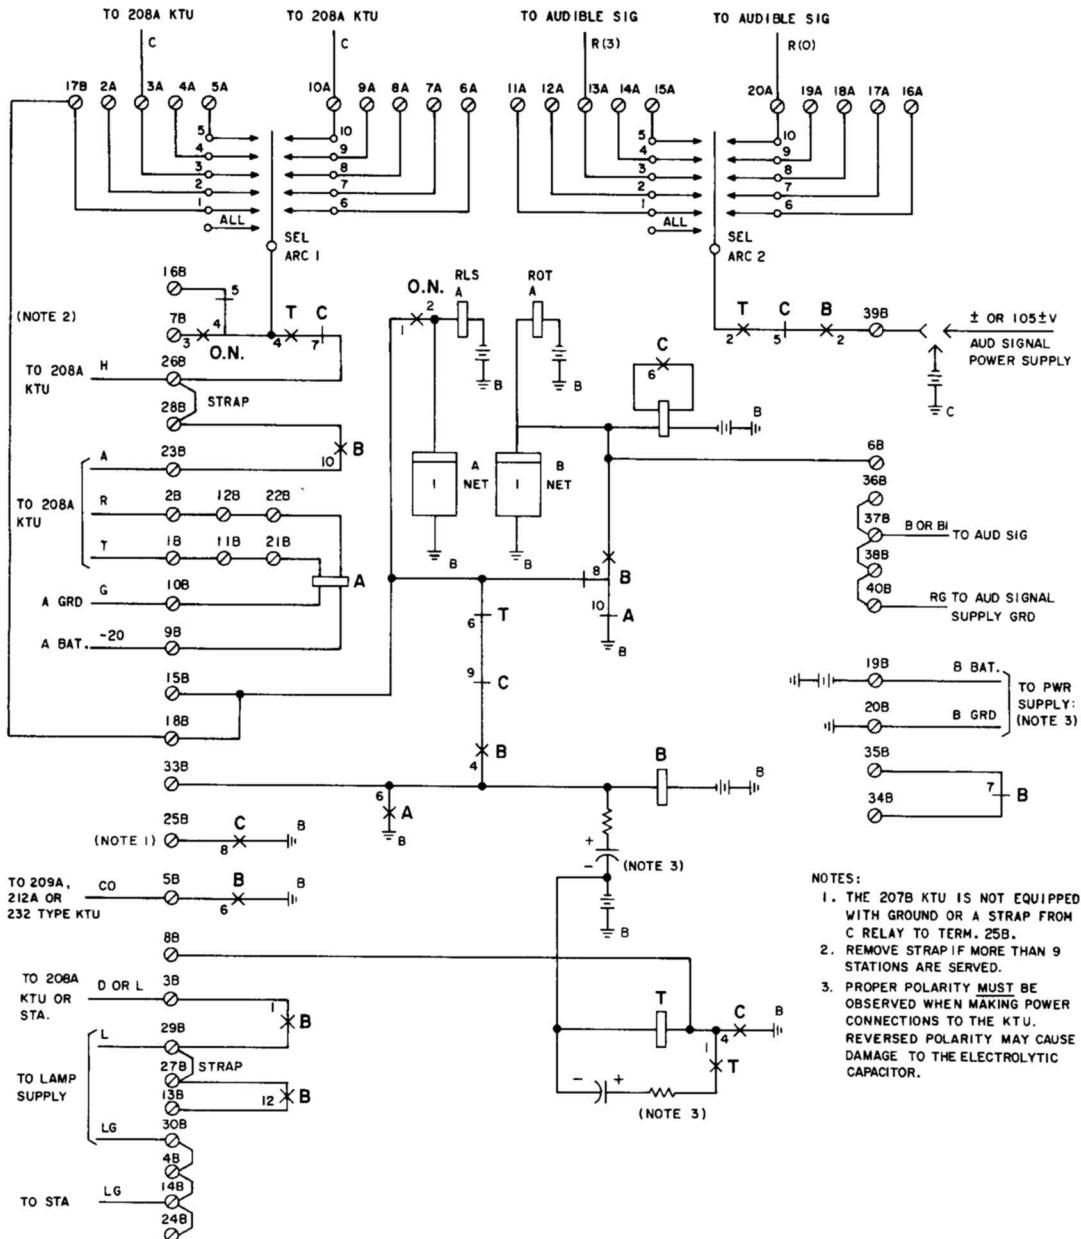

Fig. 8—Functional Schematic of 207B (MD) and 207C KTU (Selector Circuit)
F. 207B (MD) and 207C KTU (Selector Circuit)
- 2.11** The 207B and 207C KTUs (Fig. 8) are the basic selector only intercom unit. The KTUs provide: